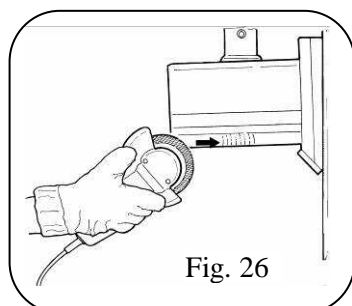

Fig. 26
- Sharpen the cutting blade periodically with a portable grinding stone. (Fig. 26)